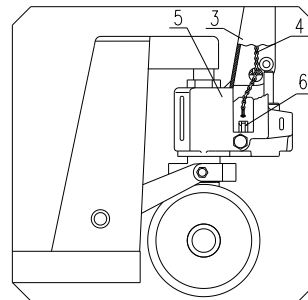
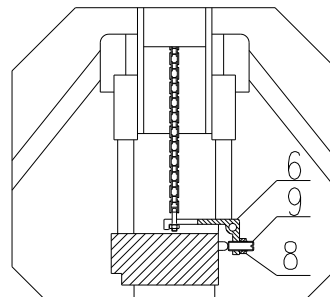

Fig. 2
Fig. 4
- 3.4 See fig 2. Put the chain 4 of hand grip get across the middle hole of pin roll 1.
- 3.5 Take screw nut which is at the end of chain 4 and hitch the groove of lever board 6. See fig 2 and fig 4.
- 4.2 The screw 9 in fig 4 is used to adjust the truck situation. When the truck body drops immediately after it is lifted, you should turn the screw 9 a